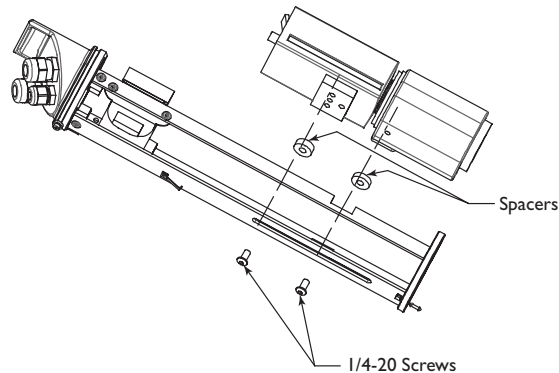

FIGURE 2 Mounting the Camera and Lens
1. **Fixed Lens Cameras:** Position the camera/lens 1mm (0.04in.) away from the faceplate. The camera/lens is secured to the cradle with a 1/4-20 button head cap screw (BHCS) and the appropriate plastic spacer (see FIGURE 2).